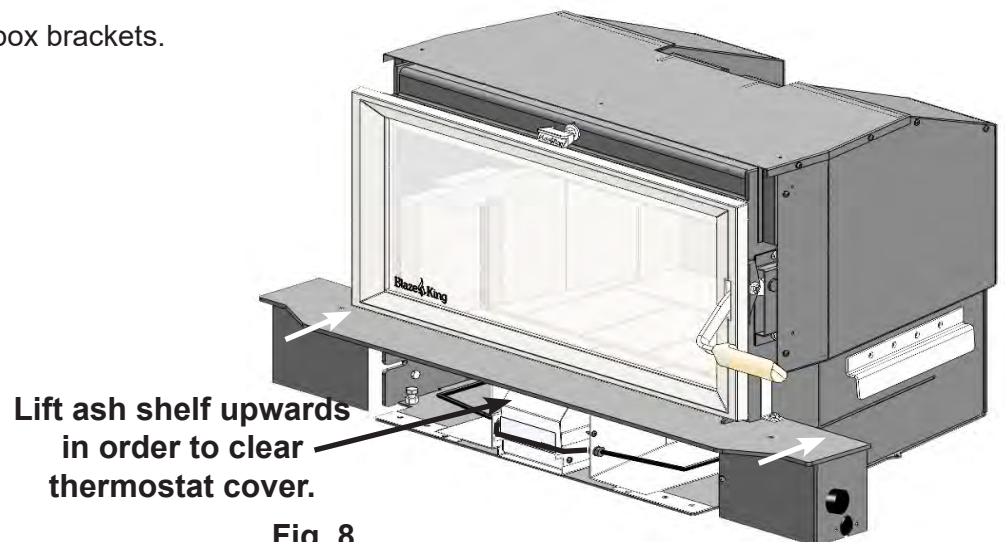

Fig. 8
3. Position lower shroud on firebox brackets. (Fig. 8)